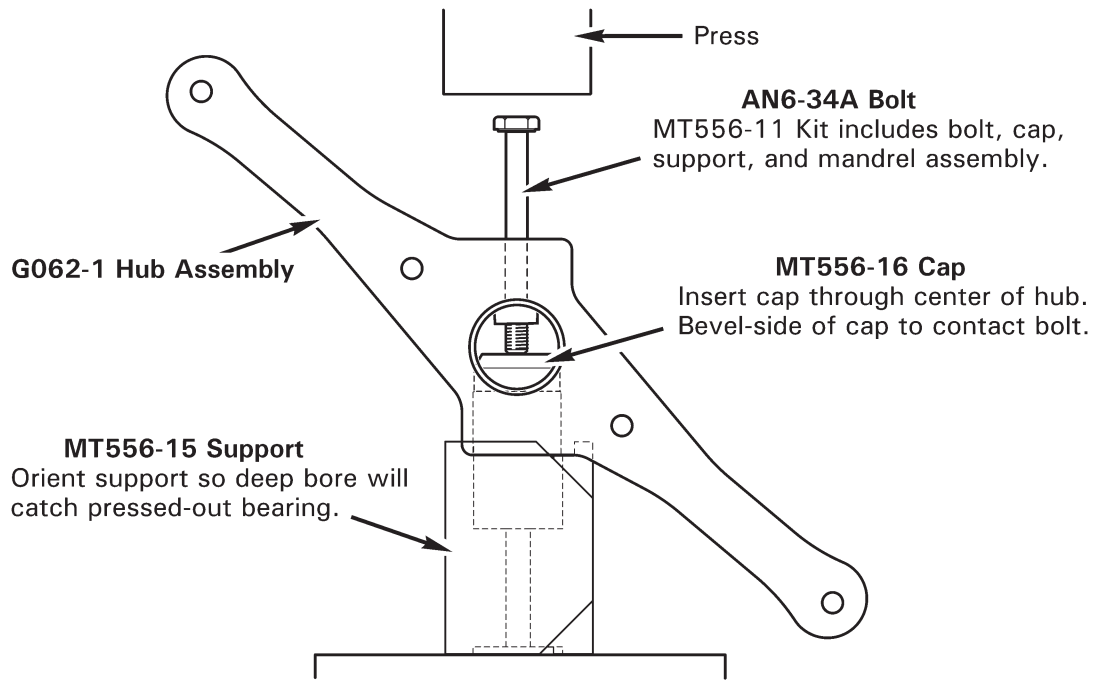

FIGURE 64-6 ELASTOMERIC BEARING REMOVAL
3. Refer to Figure 64-6. Press bearing(s) from hub using MT556-11 bearing removal (and installation) tools.